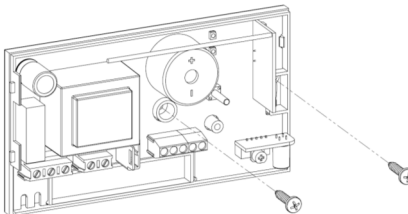

Fig. 3
- Attach the base of the gas detector to a 2 module junction box through the two screw slots with a hole to hole distance of 60 mm ensuring that wiring is made through the cable slot as shown in Fig. 3.